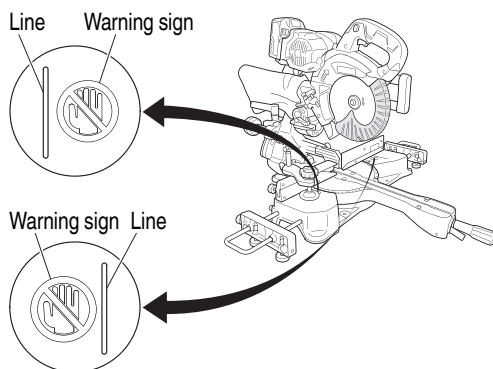

Fig. 25
- Never place your limbs inside of the line next to warning sign while the tool is being operated. This may cause hazardous conditions (see Fig. 25).